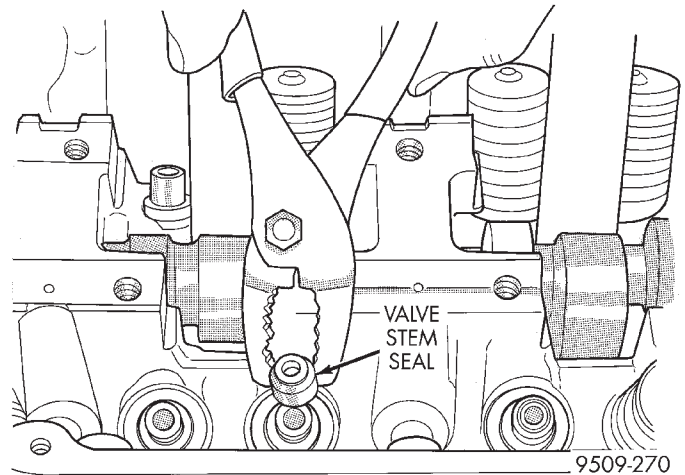

Fig. 97 Valve Stem Seals—Removal
(2) Remove valve stem seals with suitable tool (Fig. 97). Do not reuse valve stem seals.